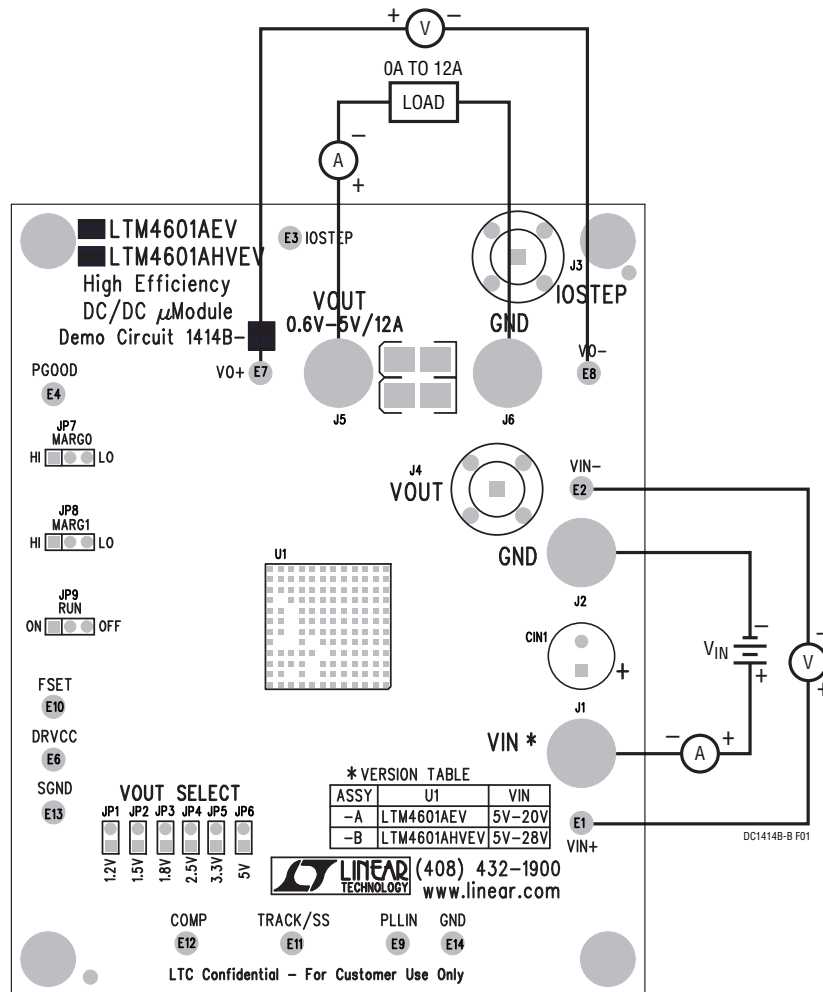

Figure 1. Test Setup of DC1414B-B
Demonstration circuit 1414B-B is easy to set up to evaluate the performance of the LTM4601AHVEV. Please refer to Figure 1 for proper measurement equipment setup and follow the procedure below:
2. With power off, connect the input power supply, load and meters as shown in Figure 1. Preset the load to 0A and V_{IN} supply to be less than 20V.